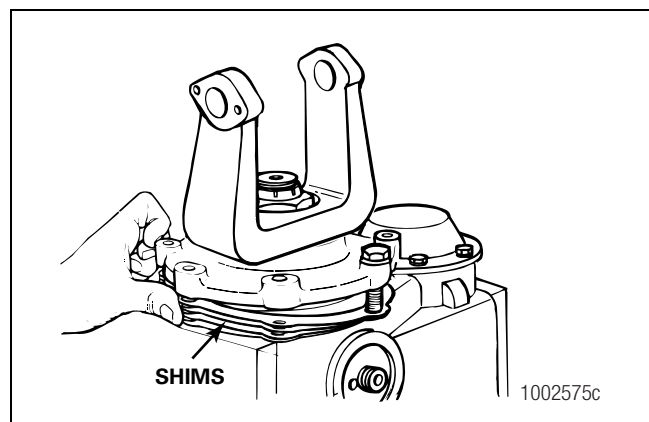

Figure 5.84
- B. Install the shim pack under the bearing cage. Verify that the hole pattern of the shim pack matches the hole pattern of the cage. Figure 5.84.